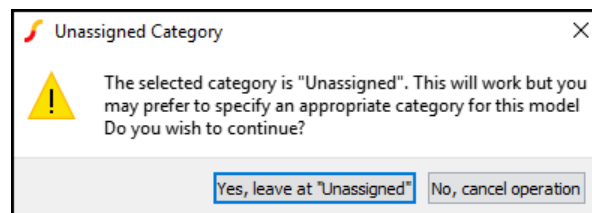

Figure 9 Associate Symbol with Model – Auto Create Symbol
- If the part will be placed in the “**Unassigned**” category, press OK and select **Yes, leave at “Unassigned”** (Figure 9), otherwise select a proper category or create a new one.